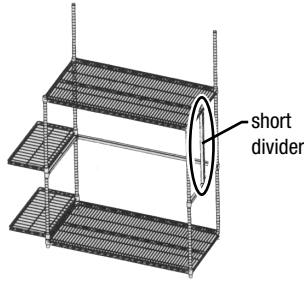

figure 6
- Assemble short divider to top shelf at right-hand side of unit (see figure 6).
- Bolt divider to 3-sided frame as shown in figure 6.